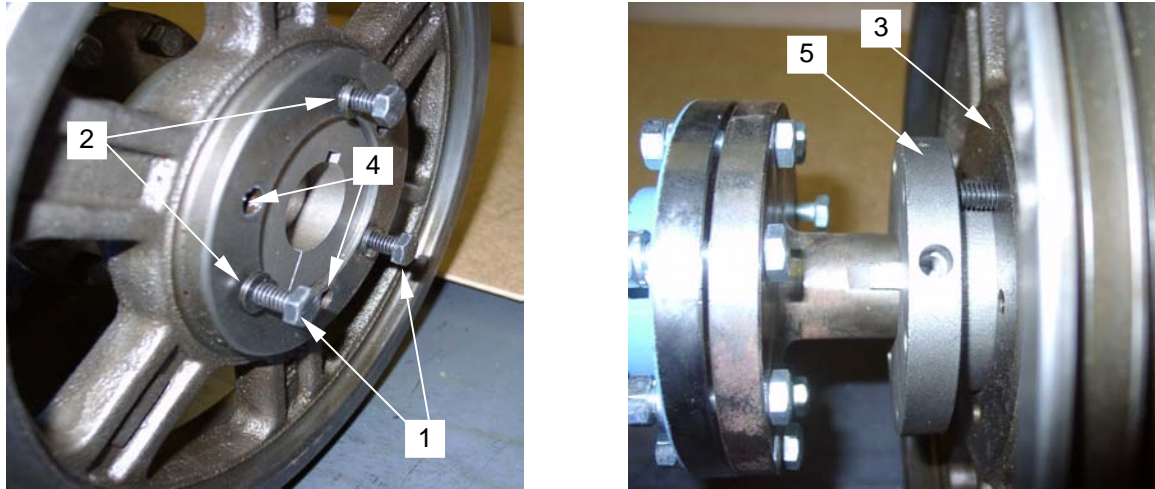

Figure 4. Removing Vacuum Pump Pulley
2. Remove three bolts (**figure 4, item 1**) and lockwashers (**figure 4, item 2**) from pump pulley (**figure 4, item 3**) and install bolts into the threaded holes (**figure 4, item 4**). By tightening these bolts the pulley is forced off the adapter (**figure 4, item 5**).
- Remove pulley (**figure 4, item 3**) from the adapter (**figure 4, item 5**).